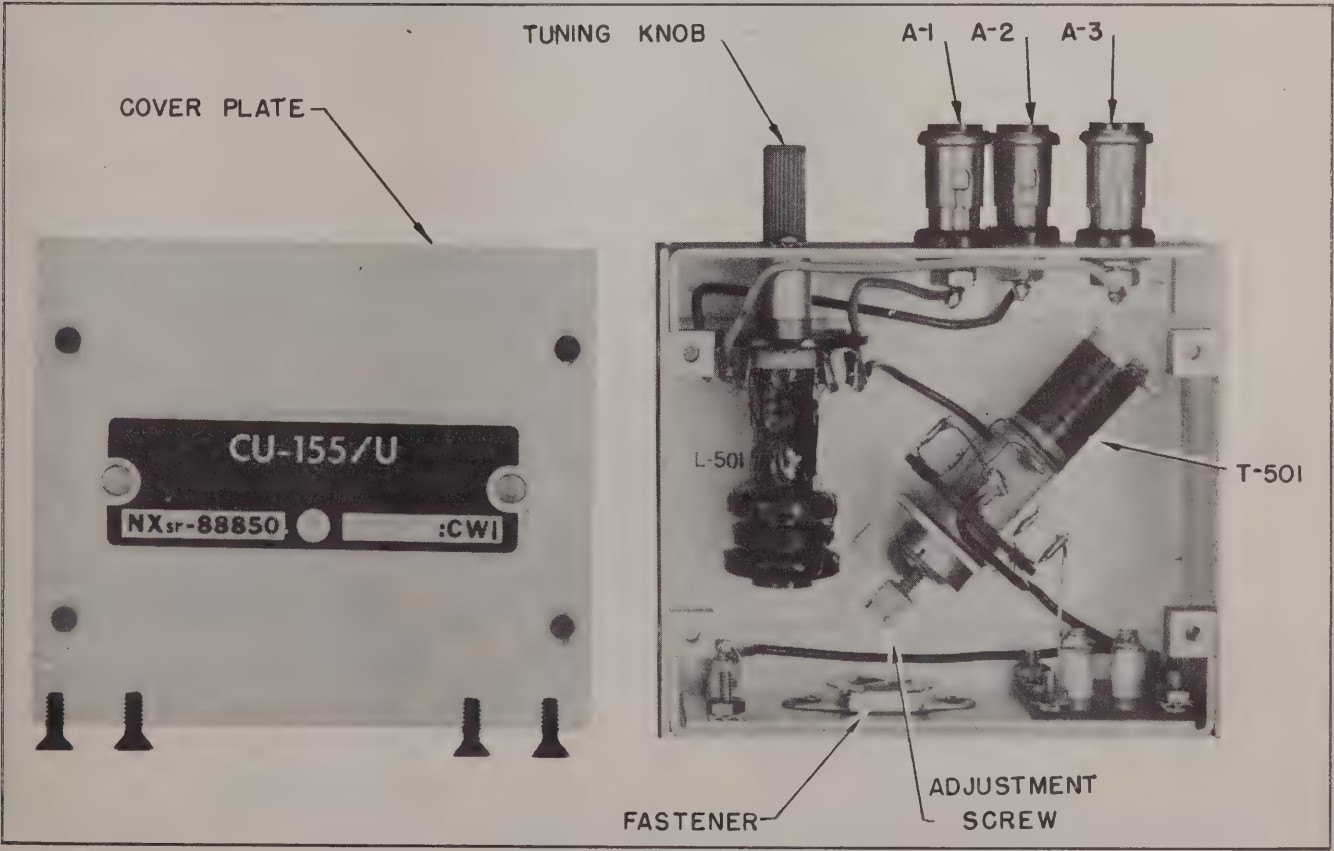

Figure 7-7. Antenna Coupler CU-155/U, Cover Removed
**(11) ADJUSTMENT OF COUPLING UNIT
CU-155/U. (See figure 7-7.)**—The adjustment of this Coupling Unit is accomplished in the same manner as described in Sec. 7-3a(10) except that the test frequency should be approximately 160 kc.